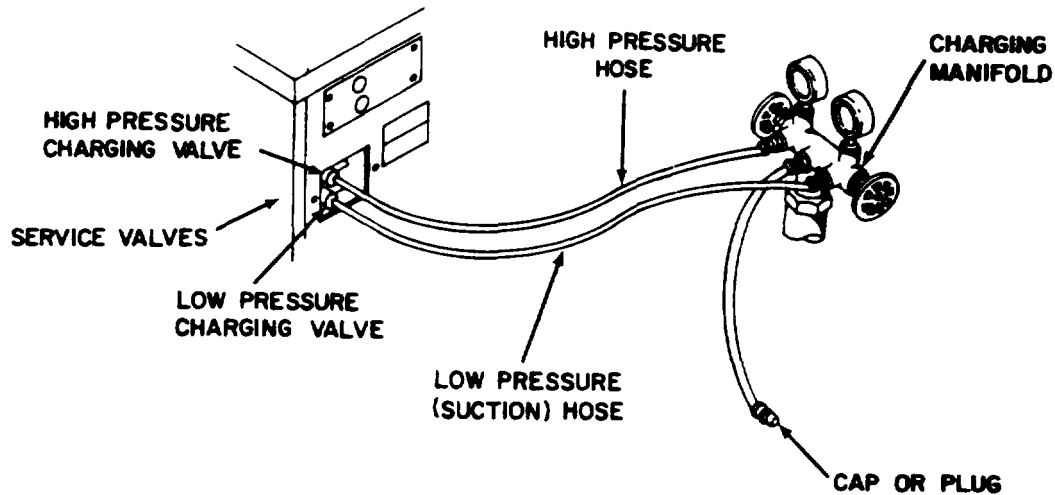

Figure 5-3. Pressure Test Setup.
a. SETUP. See Figure 5-3.
3. Connect charging manifold hoses to service valves. Make sure the high pressure hose is connected to the high pressure service valve, and the low pressure hose to the low pressure (suction) service valve. See Figure 5-3.